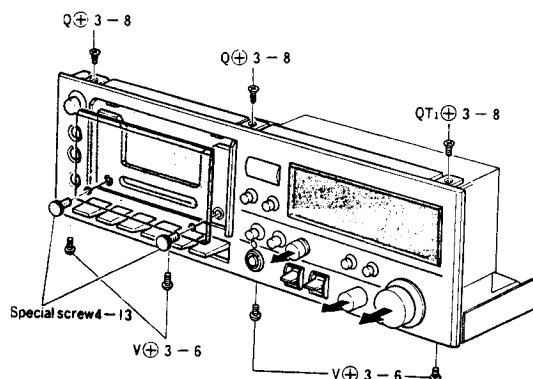

Fig. 2
- 3) Remove 7 screws. (Refer to Fig. 2)